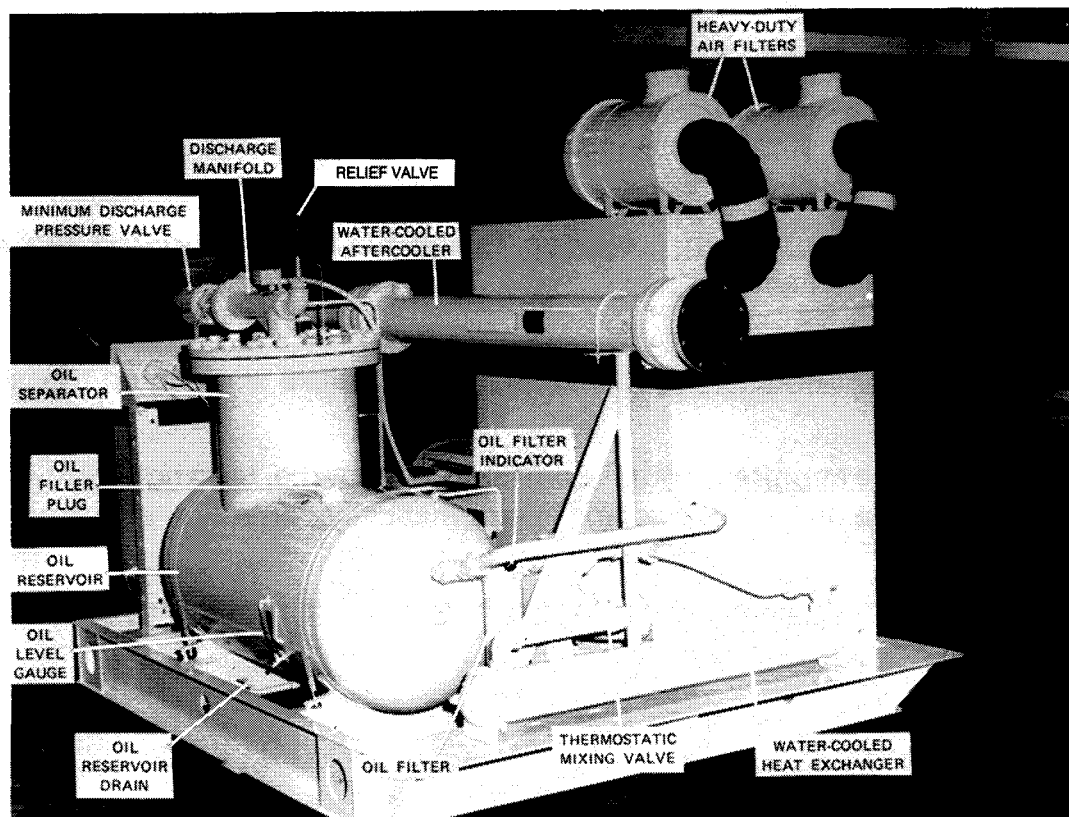

FIGURE 1-3 - VIEW OF UNIT WITH WATER-COOLED AFTERCOOLER
OIL RESERVOIR DRAIN (Figure 1-3, Section 1, page 2) - The oil reservoir drain valve is located near the center of the oil reservoir just below the separator tower. The drain valve is approximately five (5) inches from the floor